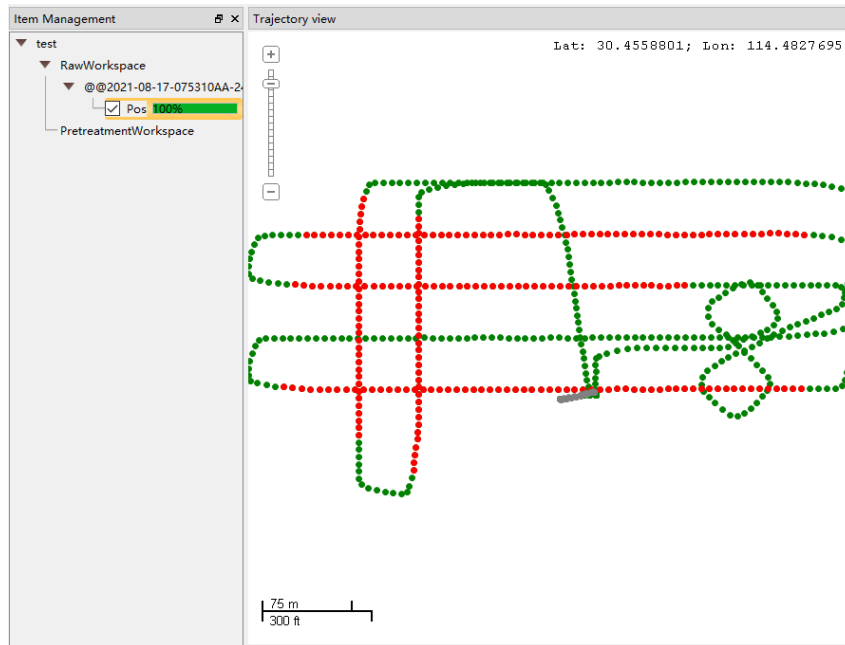

Figure 23
- Left click to select the POS trajectory to be solved, and the selected POS trajectory will turn red as shown in figure 23